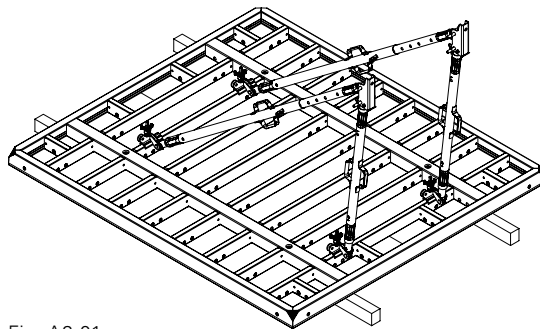

Fig. A2.01
- second panel onwards: 1 Push-Pull Prop. (Fig. A2.01)